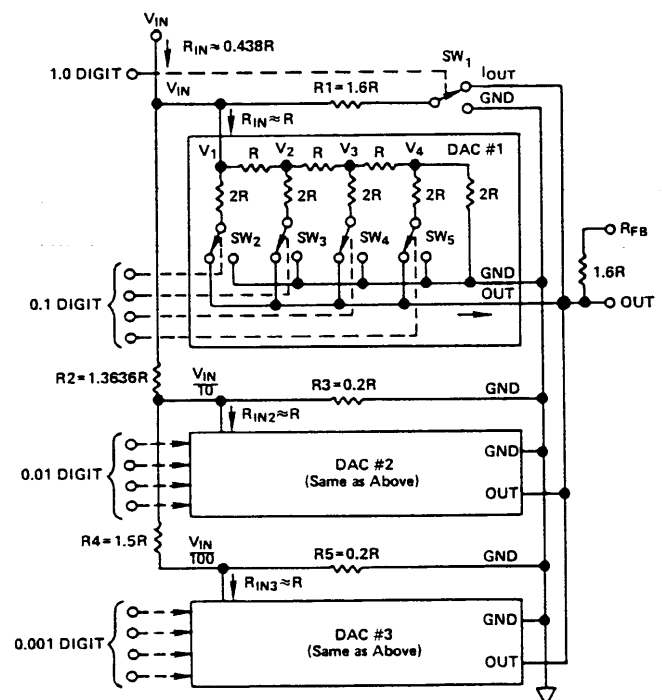

Figure 1. AD7525 Circuit Diagram
Referring to Figure 1, the "1.0 Digit" is a 1-bit multiplying DAC (composed of  $SW_1$  and  $R_1$ ) while the 0.1, 0.01, and 0.001 digits are 4-bit multiplying DAC's (DAC1, DAC2, and DAC3) connected by 10:1 dividers (composed of  $R_{IN2}$ ,  $R_2$ ,  $R_3$  and  $R_{IN3}$ ,  $R_4$ ,  $R_5$ ).
2. Apply +10V to the  $V_{IN}$  input of Figure 1.